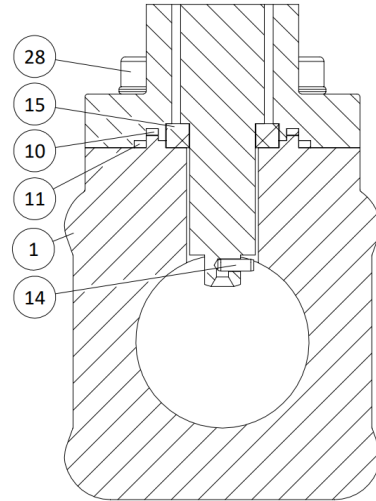

Figure 3 – Extension and body assembly
- Place the first seal (10) into the extension (3) and the second seal (11) and the bearing (15) into the body (1) – Figure 3 – Extension and body assembly. Carefully place the extension set (3) on top of the body (1), to avoid damaging the seals and the bearing. Rotate the stem (6) and the extension (3) to ensure no sealing is broken or malfunctioning. Tighten the bolting (28) according to Table 4 – Extension bolting system torque [Nm];